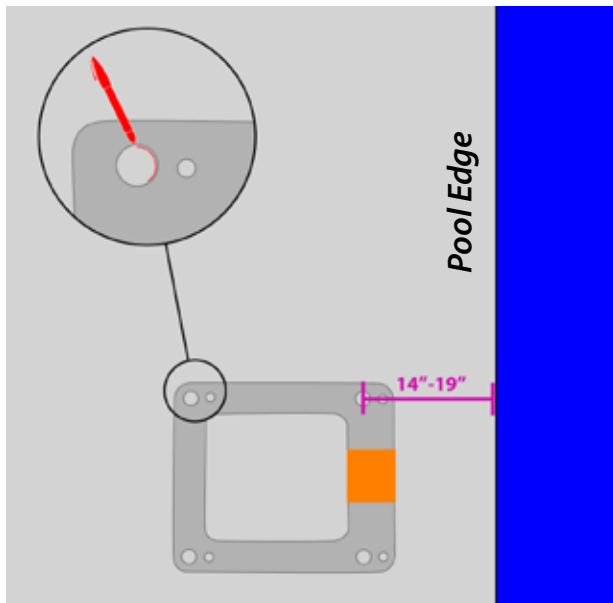

FIGURE 2
1. Mark the 4 hole locations on your deck using the larger holes of the anchor plate as a template. Make sure the center of the holes on the anchor plate are 14 to 19 inches from the pool's edge. SEE FIGURE 2